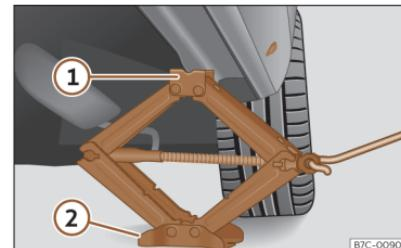

Fig. 202 Crossbar: mounting the jack on the vehicle.
- Turn the jack crank handle, located below the strut support point, to raise it until the tab **①** >>> **Fig. 202** is below the housing that is provided.
- Align the jack so that the tab **①** "grips" onto the housing provided on the cross member and the mobile base **②** is resting on the ground. The base plate **②** should fall vertically with respect to the support point **①**.